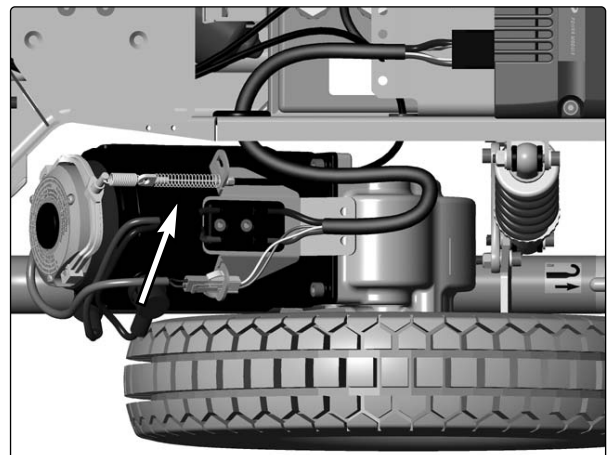

Fig. 45. Fit the wheel lock release cable.
6. Fit the wheel lock release cable; see figure 45.